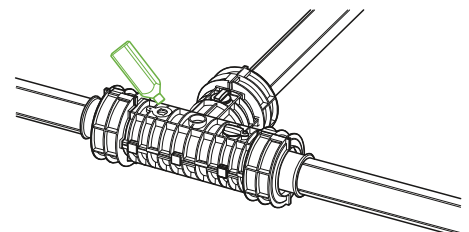

Fig. B12.1.9
8. Prepare the PUR foam mixture, carefully following the instructions in Paragraph B12. Pour the PUR mixture inside the half-shell sleeve (Fig. B12.1.9), using the open hole identified in step 7.